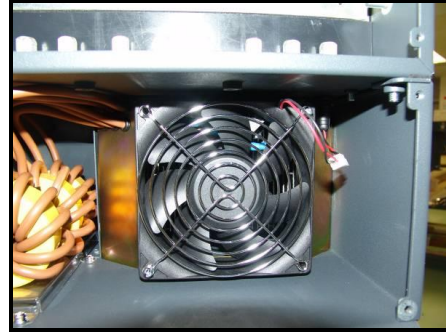

Figure 7.2.25
- 3) Remove the 2 screws **M4x45** DIN-84 that fix the fan to the structure (see figure 7.2.25).